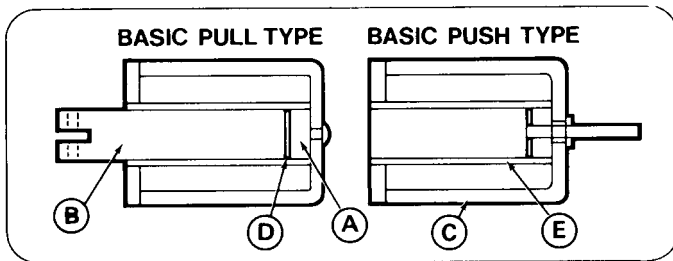
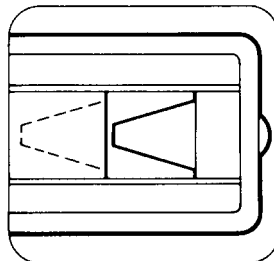

Fig. 3
Fig. 4
(Fig. 3) A standard solenoid is constructed with a core, inside the coil, made of two sections - a fixed pole piece, or backstop (A), a movable armature or plunger (B), and an iron frame around the coil winding (C). The magnetic lines of force created by the electric current in the coil react to close the gap (D) between the plunger and backstop; the plunger moves and generates a linear force - **mechanical work**. The magnetic **permeability** of the plunger, backstop and frame will dictate the efficiency of the solenoid. Also, it is important that magnetic force lines disappear when the coil is de-energized; any remaining is called **residual magnetism** and may prevent the plunger from returning to the position it had before current was applied to the coil. Solenoid design providing a negligible **residual magnetism** characteristic is essential.
Fig 3 shows a typical solenoid construction with a **flat faced** plunger-backstop mating surface. This is always incorporated in A.C. solenoids, but D.C. units may have parts with conical shaped mating surfaces. (Fig. 4)